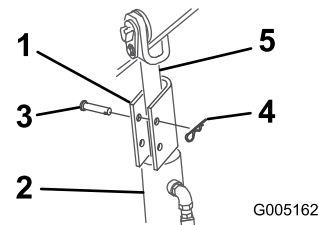

Figure 19
4. Position a loader arm cylinder lock over each lift cylinder rod (Figure 19).
5. Secure each loader arm cylinder lock with a clevis pin and cotter pin (Figure 19).